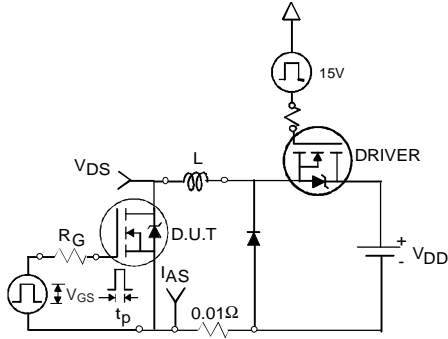

Fig 12a. Unclamped Inductive Test Circuit
- ③ Pulse width $\leq 1.0\text{ms}$; duty cycle $\leq 2\%$.
- ④ $C_{oss\ eff.}$ is a fixed capacitance that gives the same charging time as C_{oss} while V_{DS} is rising from 0 to 80% V_{DSS} .
- ⑤ Limited by T_{Jmax} , see Fig.12a, 12b, 15, 16 for typical repetitive avalanche performance.
- ⑥ This value determined from sample failure population. 100% tested to this value in production.
3. Equation below based on circuit and waveforms shown in Figures 12a, 12b.